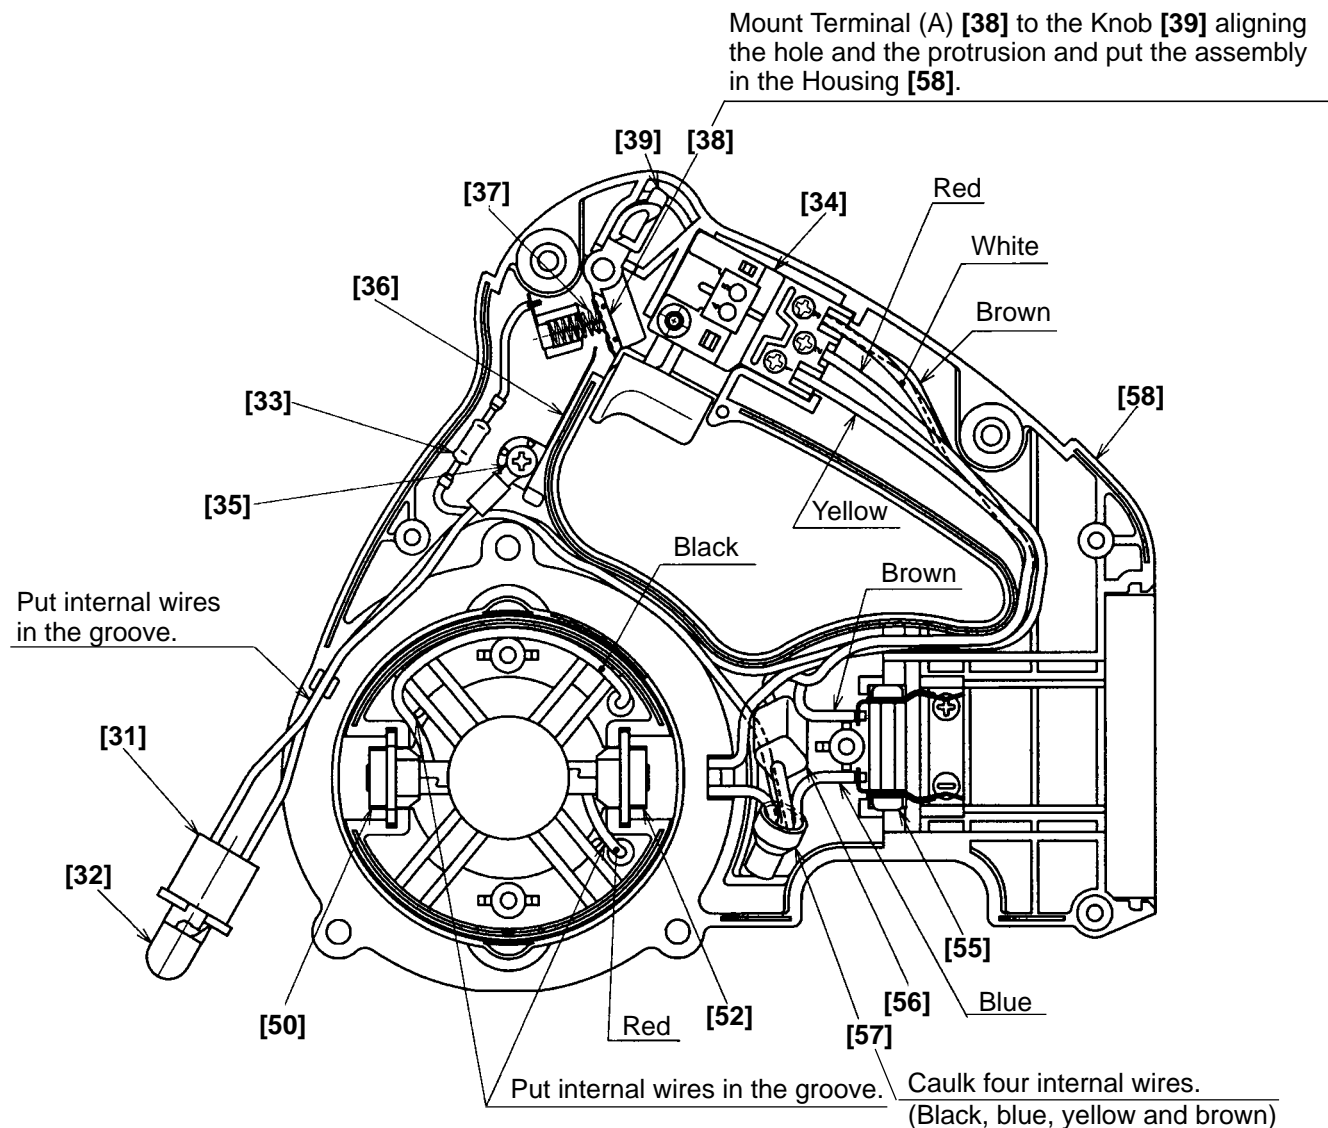

Fig. 5
(7) Internal wire arrangement (See Fig. 5.)
Connect internal wires as illustrated in Fig. 5. At this time, ensure that none of the wires are pinched between components during assembly. Mount the Knob [39], Terminal (A) [38] and Spring (F) [37] without fail.